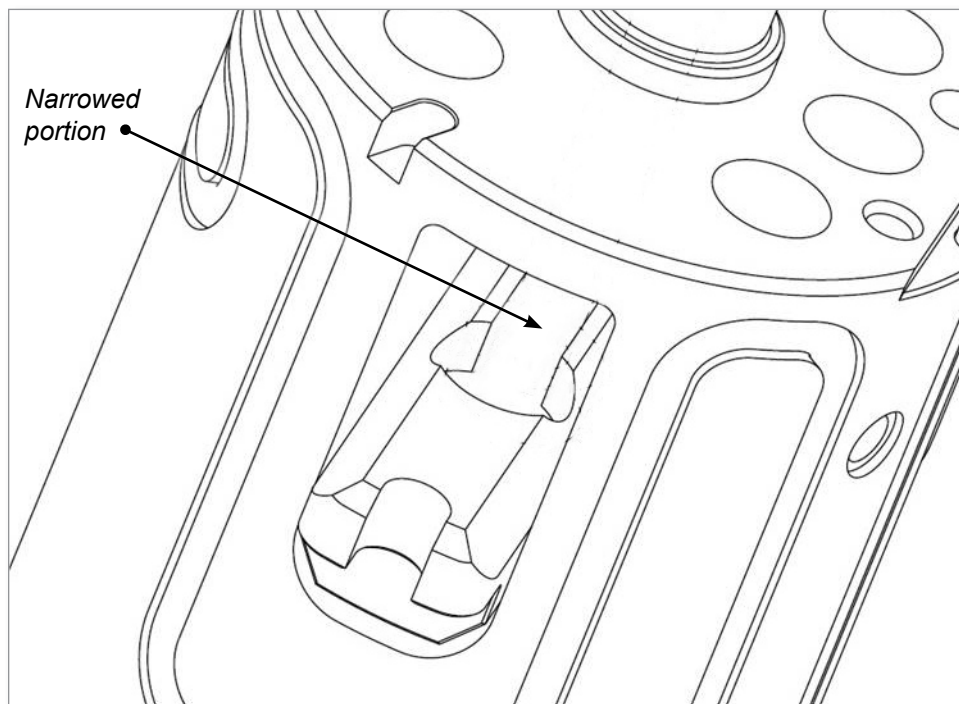

Figure 11-9 Locate the valve pin head in the narrowed portion
8. Slide the valve pin holder to locate the valve pin head in the narrowed portion of the slot. See Figure 11-9.